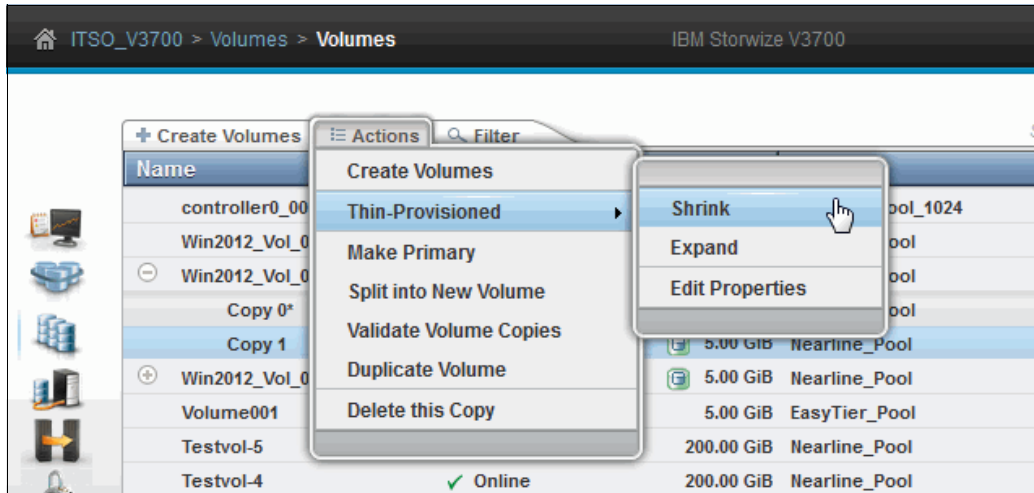
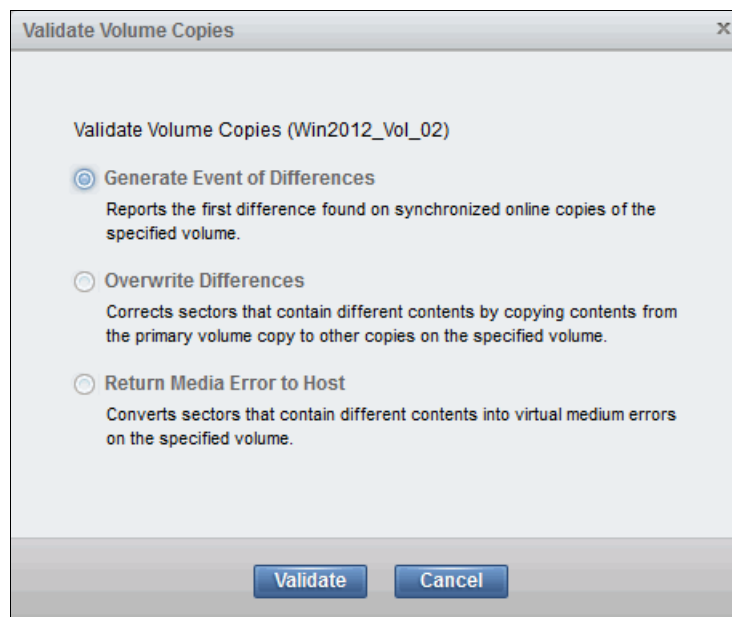

Figure 8-67 Volume copy actions
Figure 8-73 Validate Volume Copies pane
Expanding a volume, selecting a copy, and opening the Action menu displays the following volume copy actions, as shown in Figure 8-67 on page 407:
Looking at the volume copies that are shown in Figure 8-67, it is possible to see that one of the copies has an asterisk (*) displayed next to its name, as also shown in Figure 8-68.
1. Click **Split into New Volume** (as shown in Figure 8-67 on page 407) on any copy, and the remaining secondary copy automatically becomes the primary for the source volume. Optionally, a name for the new volume can be specified.
1. Select **Validate Volume Copies**, as shown in Figure 8-67 on page 407. The Validate Volume Copies pane opens, as shown in Figure 8-73.
1. After selecting a volume copy, click **Duplicate Volume** (as shown in Figure 8-67 on page 407).
1. Click **Delete** (as shown in Figure 8-67 on page 407) to delete a volume copy. The copy is deleted, but the volume remains online by using the remaining copy.